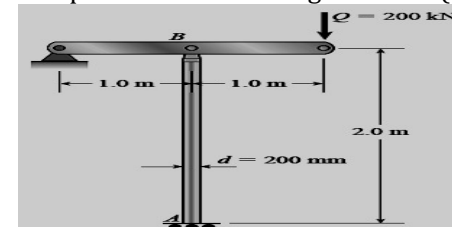

Fig. 8
- (b) An aluminum tube AB of circular cross section has a guided support at the base and is pinned at the top to a horizontal beam support load $Q = 200 \text{ kN}$ (see figure 8). Determine the required thickness of the tube if its outside diameter d is 200 mm and the desired factor of safety with respect to Euler buckling is $n = 3.0$. (Assume $E = 72 \text{ GPa}$.)